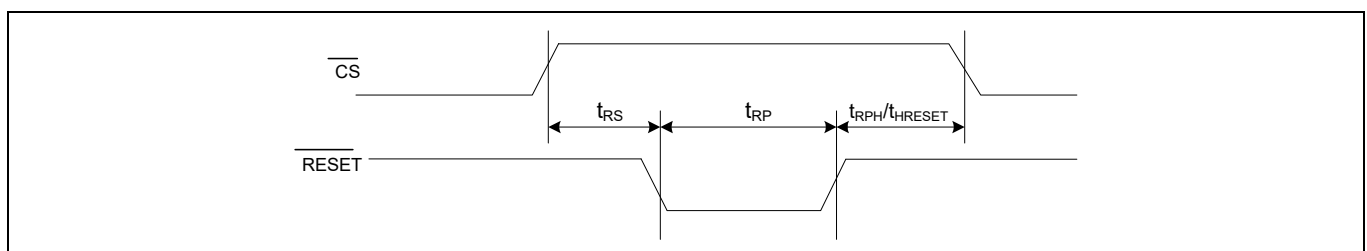
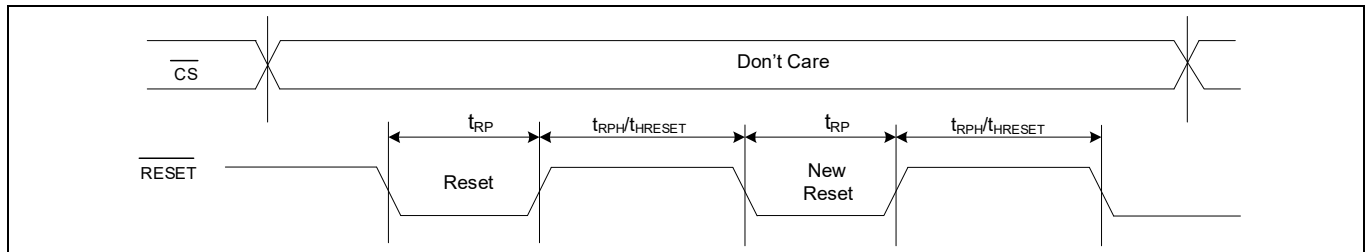

Figure 109 $\overline{\text{RESET}}$ timing - SPI with QUAD set (CR1[1] = 1) or QPI enabled (CR2[6] = 1)
Figure 110 **RESET timing - SPI with QUAD clear (CR1[1] = 0) and QPI disabled (CR2[6] = 0)**
The hardware reset input ($\overline{\text{RESET}}$) is multiplexed on ($\overline{\text{RESET}}$ / I/O3) and is an active LOW signal in CY15x108QSN device. Refer to Table 21 for hardware reset ($\overline{\text{RESET}}$) pin configurations across various SPI interfaces. When $\overline{\text{RESET}}$ is pulled LOW, CY15x108QSN self initializes and brings its configuration back to the power up status. Refer to Table 59 for different registers configuration after $\overline{\text{RESET}}$ cycle. Once $\overline{\text{RESET}}$ is issued, CY15x108QSN takes $t_{\text{RPH}}/t_{\text{HRESET}}$ time from $\overline{\text{RESET}}$ rising edge to complete the reset cycle. CY15x108QSN becomes inaccessible during t_{RPH} time. Figure 109 and Figure 110 show the $\overline{\text{RESET}}$ timings in different reset mode.
- The $\overline{\text{RESET}}$ pin is multiplexed on I/O3 in the QPI mode. When using the hardware ($\overline{\text{RESET}}$) in QPI mode, the CR2 [5] bit must be set to '1' to enable to use I/O3 as $\overline{\text{RESET}}$ input when $\overline{\text{CS}}$ is HIGH. Figure 109 shows the $\overline{\text{RESET}}$ / (I/O3) timing in QPI mode.